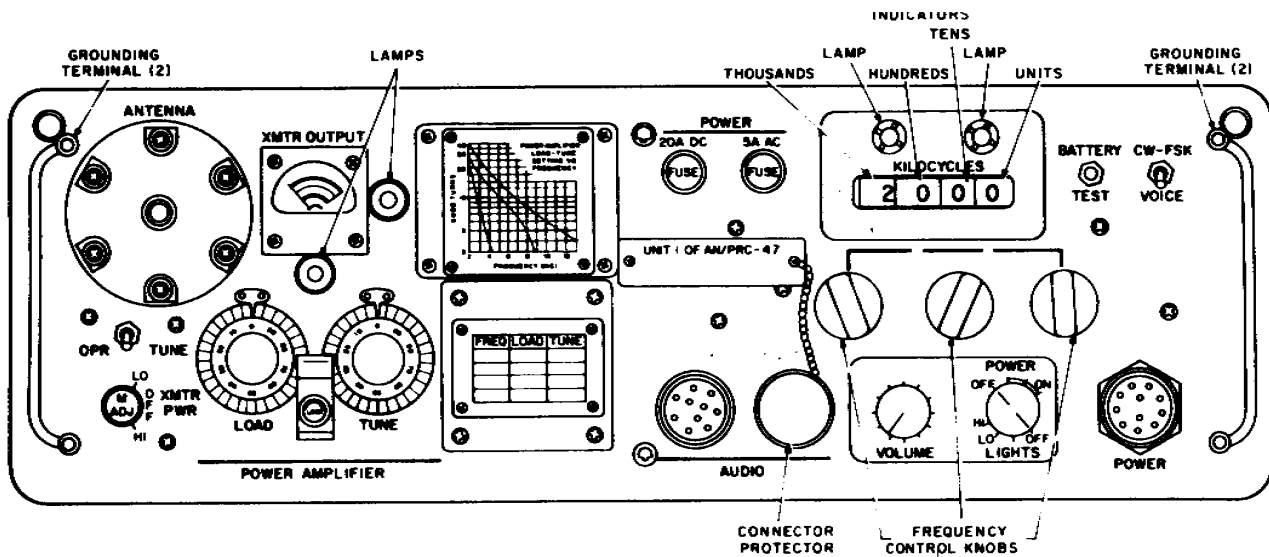

Figure 3-1. Receiver-Transmitter, Radio RT-671/PRC -7, front panel controls, indicators, and receptacles.
(2) Be sure the POWER/LIGHTS switch (fig 3-1) on the Receiver-transmitter control panel is at OFF/OFF.
(3) For the portable configuration, perform the following:
(b) Unwind the eight radials (two per leg) from the spools that form an integral part of each leg (fig. 1-6) and connect the short (terminated) end of each radial to the ground terminals (fig. 3-1) at each end of the receiver-transmitter front panel.
(c) Attach the threaded stud section to the ANTENNA connection on the front of the receiver-transmitter (fig. 3-1).
(1) *Portable.* During portable operation, the primary power source is the battery. For this configuration, install Adapter, Battery Terminal MX-4430/PRC-47 on top of the battery. Note that the adapter is keyed for one-way installation only. Place the connector portion of the adapter on the same side as the + and - stampings on the battery. Attach Cable Assembly, Power Electrical CX-8395/PRC-47 to the connector on top of the adapter before connecting the opposite end to the POWER connector on the RT-671/PRC47 front panel (fig. 3-1). Proceed to paragraph 2-9a.
(2) *Vehicle.* When the primary power source is a dc generator, be sure that the instructions in paragraph 2-8 have been implemented. Connect Cable Assembly, Power Electrical CX-8394/ PRC-47 to the source and then to the POWER connector on the RT-671/PRC-47 front panel (fig. 3-1). Proceed to paragraph 2-9c.
(1) On receiver-transmitter, set POWER/LIGHTS switch (fig. 3-1) to ON/LO.
(2) Press BATTERY TEST pushbutton and check that XMTR OUTPUT meter indicates in white area. If meter indicator does not deflect, check that 20A DC POWER fuse is not defective. If the fuse is defective, replace it.
(3) If fuse is not defective, check cable CX-8395/PRC-47. If cable is defective, replace it.
(4) If meter indicator deflects, but not in white area, check the battery (open-circuited) with the multimeter. The multimeter should indicate at least + 29.2 volts dc. If not, substitute another battery and repeat these procedures. For the defective battery, refer to TM 11-6140-208-15.
(5) Set POWER/LIGHTS switch to OFF/ OFF.
(1) Be sure the POWER/LIGHTS switch (fig. 3-1) is at OFF/OFF.
All controls, indicators, and receptacles used by the operator are located on the front panel of Receiver-Transmitter, Radio RT-671 /PRC-47. The front panel controls and indicators are illustrated in figure 3-1 and described in detail in paragraph 3-2.
Each panel-mounted control or indicator (fig. 3-1) is listed in the following chart and a functional description is provided to assist the operator in the proper performance of his duties.
- a. Set POWER/LIGHTS switch (fig. 3-1) to OFF /OFF.
- a. Set POWER/LIGHTS switch (fig. 3-1) to ON/LO and allow a minimum of 5 minutes for stabilization.
- a. Set POWER/LIGHTS switch (fig. 3-1) to ON /LO and allow a minimum of 5 minutes of stabilization.
- a. Verify that CW-FSK/VOICE switch (fig. 3-1) is at VOICE.
- a. Set the CW-FSK/VOICE switch (fig. 3-1) to CW-FSK for both reception and transmission; set the switch to VOICE for reception only.